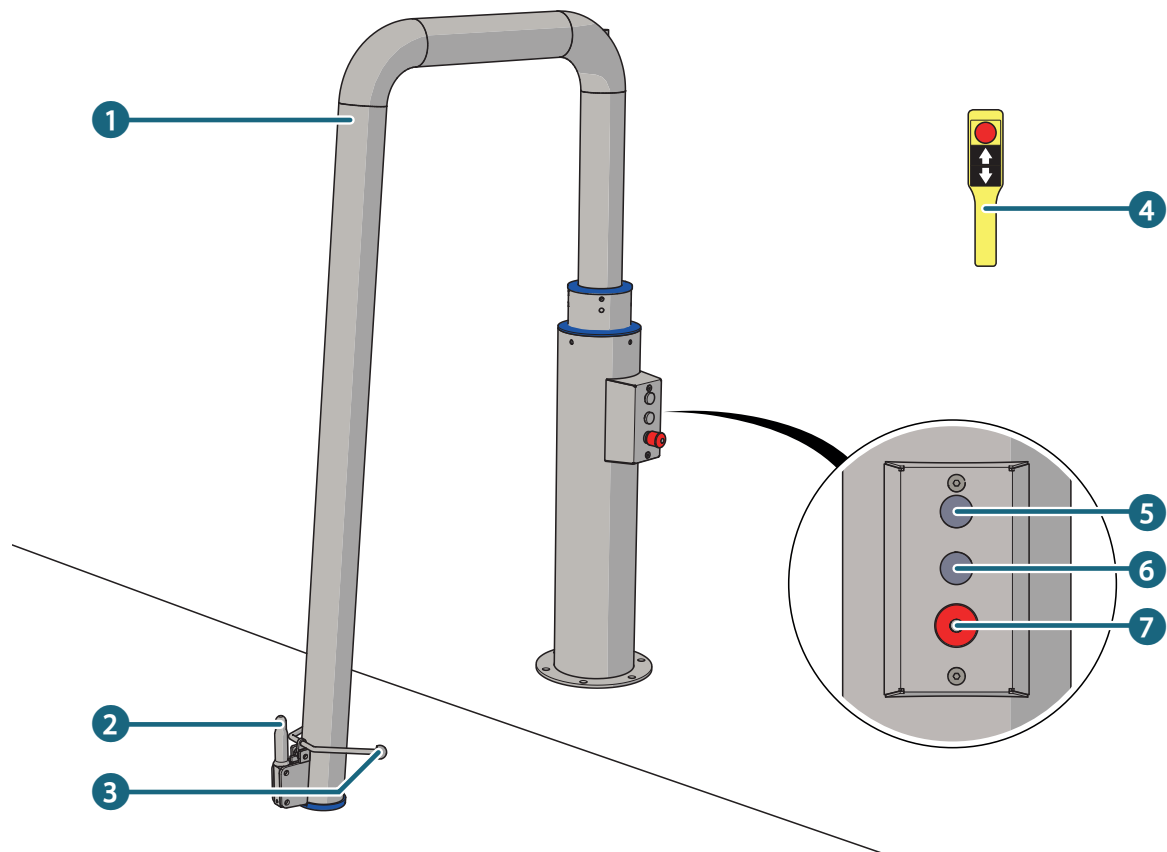
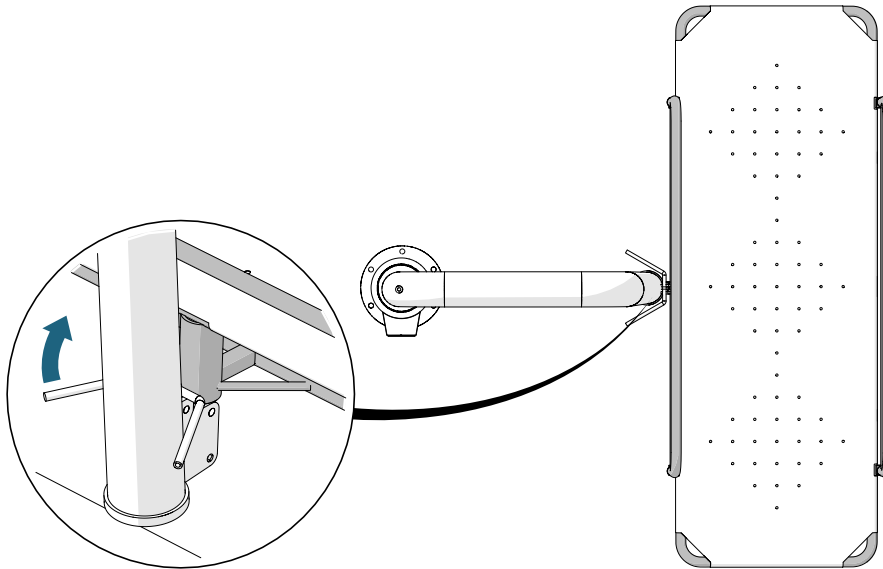

Figure 1 - Components
Figure 11 - Disabling the rotation lock (1)
See figure 1 for the main components of the pool lift.
The pool lift is equipped with an emergency stop (see number 7 in figure 1) and two buttons for operating the pool lift (see numbers 5 and 6 in figure 1).
2. Move the rotation lock lever (number 3 in figure 1) upward (see figure 11).